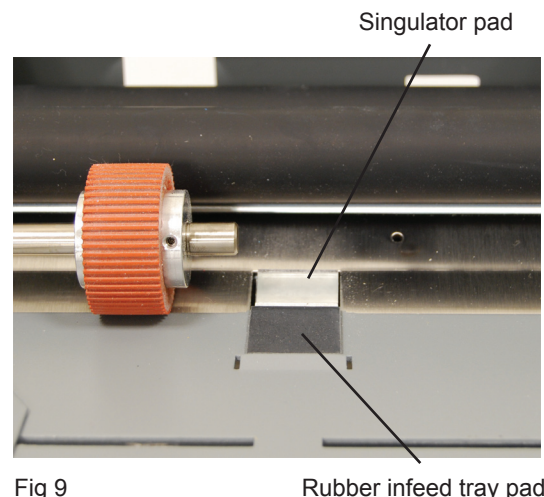

Fig 9
2. Remove rubber singulator pad (Fig. 9). A screwdriver or knife may be need to pry the pad off.
4. Remove old pad (fig. 9). A screwdriver or knife may be needed to pry the pad off.